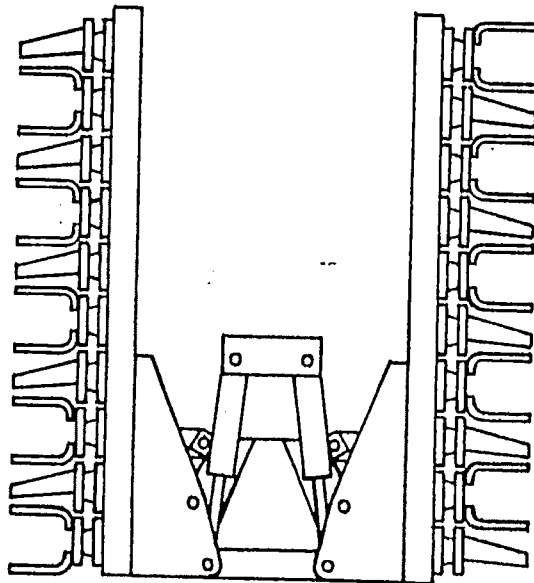

FIG. 2
- 4) After the cylinders will have entirely carried out their stroke, the machine will be in a configuration similar to that shown on **fig.2**.